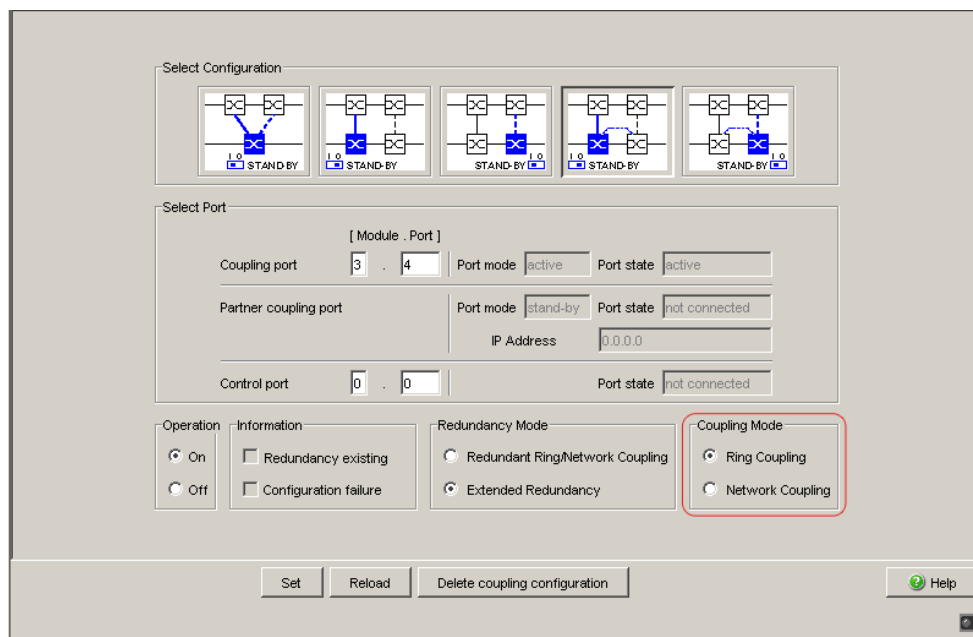

Figure 27: Selecting the coupling mode
- ☐ In the “Coupling Mode” frame, select (see fig. 27)